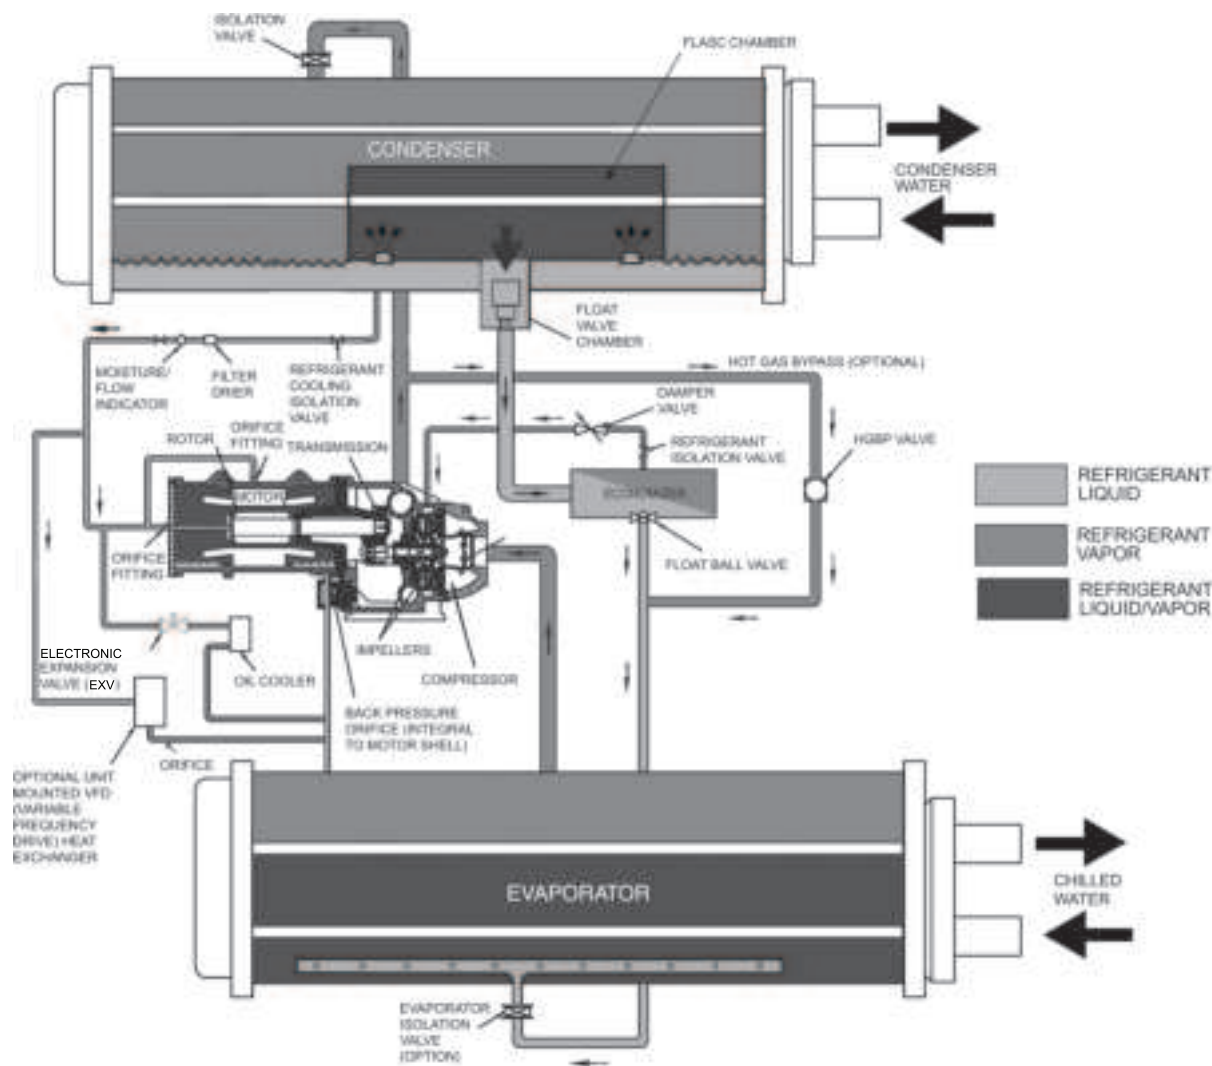

Fig. 7 — Refrigeration Cycle — 19XR(V) Two-Stage Compressor
The refrigeration cycle for a 19XR(V) chiller with two-stage compressor is similar to the one described above, with the following exception: Liquid refrigerant from the condenser FLASC chamber linear float valve or orifice plate flows into an economizer at intermediate pressure (see Fig. 7). As liquid enters the chamber, due to the lower pressure in the economizer, some liquid flashes into a vapor and cools the remaining liquid. The separated vapor flows to the second stage of the compressor for greater cycle efficiency. A damper valve located on the economizer line to the compressor acts as a pressure regulating device to stabilize low load, low condensing pressure operating conditions. The damper will back up gas flow and thereby raise the economizer pressure to permit proper refrigerant flow through the economizer valve during those conditions. The damper also is closed during start-up conditions to allow the second stage impeller to start unloaded.